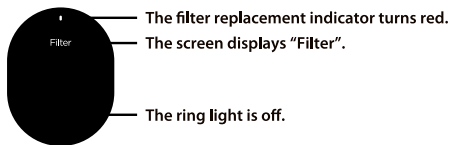

Figure 3
NOTICE The 1/2" adapter and small rubber gasket can be either placed on top of the 3-way valve (Fig.3-A) or on top of the water supply shut-off valve (Fig.3-B).
6. Place the medium rubber gasket on the water supply shut-off valve and screw the 3-way valve onto the water supply shut-off valve using an adjustable wrench. Make sure that the 3-way valve is connected securely. Do not over tighten the connections, this may damage the fittings (Fig. 3).
- If the filter has expired, the ring light will be off. Also, the filter replacement indicator will turn red and the screen will display "Filter" after flashing 3 times (Figure 3).